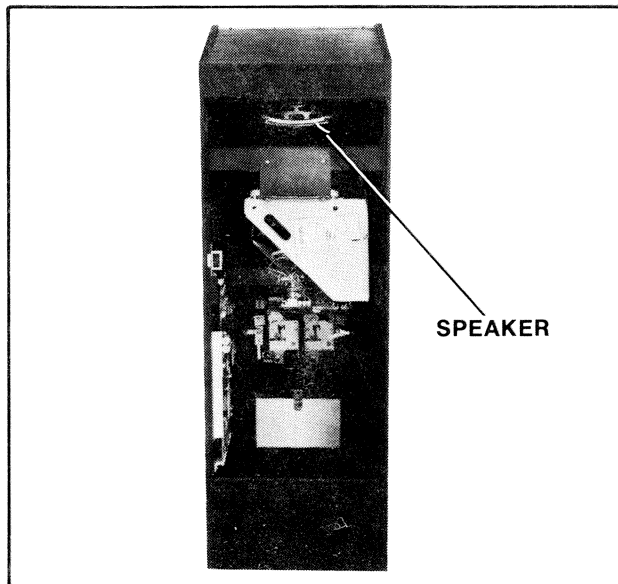

Figure 24 Replacing speaker — Mini game
- To replace the speaker. See Figure 24.